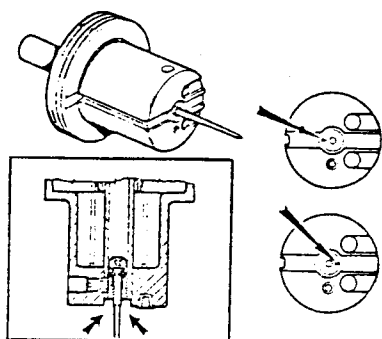

Fig C5.9
- (20) Refer to Fig C5.9. Replace the needle guide and spring. Use a new retaining screw when refitting the needle and ensure that the needle guide etch mark aligns correctly with the piston transfer holes (alternative specifications illustrated). After fitting the needle assembly, check that the shoulder of the needle aligns the full face of the piston (see para 2, step (6)).